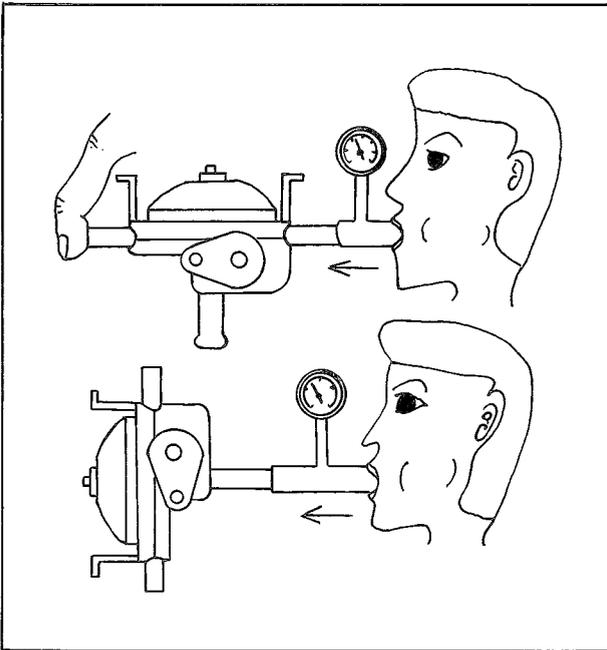

Fig. 1B-50 Checking check valve
2. As shown in Fig. 1B-50, connect a pressure gauge to the passage to the condense tank and blind the other end by finger.